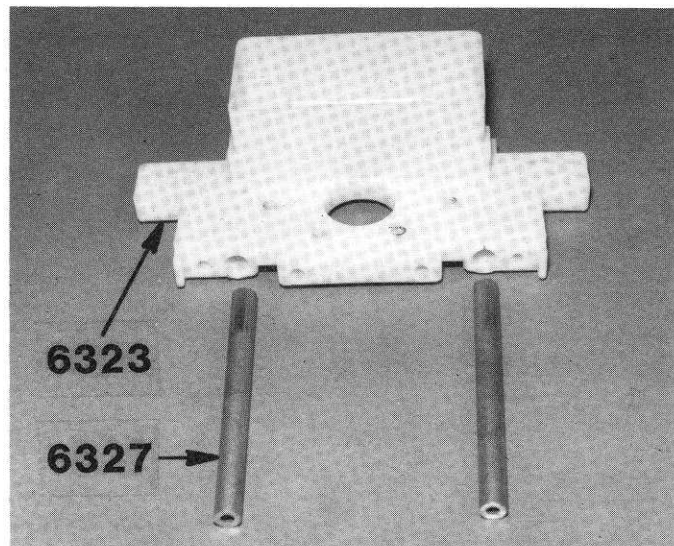

Fig. 71
□ **Fig. 71** From bag #6-4 take the #6323 rear bulkhead out, and the 2 #6327 wing tubes. The wing tubes are the short tubes. Take the tubes, round off the square cut corners on the ends with a file, and tap the wing tubes into the bulkhead.